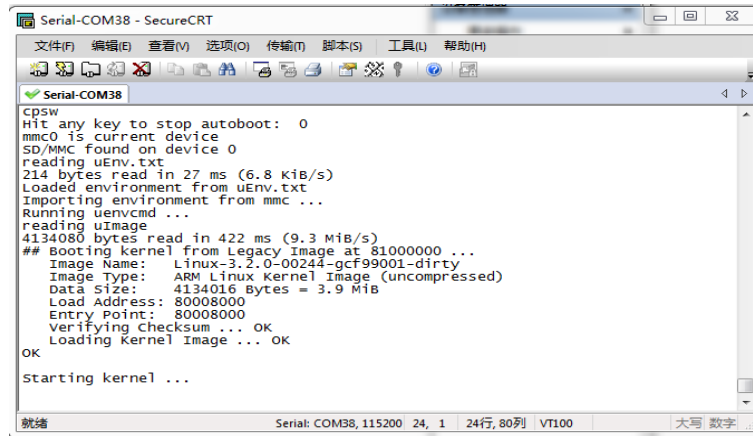

Figure 3-1 Serial output
- 3、Power on the board, you can see the serial output of information like Figure 3-1.